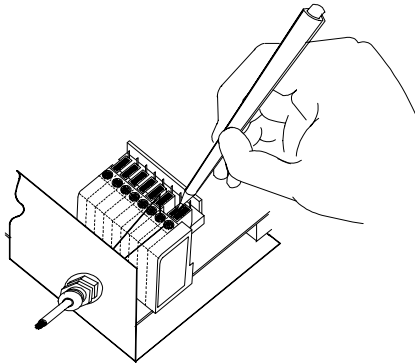

Figure 2.8 - System cable connections to the junction box
- Using a device such as a screwdriver, push down on the orange lever directly above the clamp (see Figure 2.8).